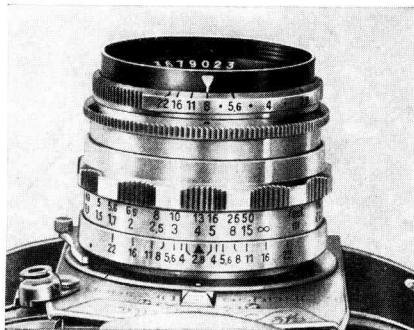

Fig. 14
For critical focusing turn the distance ring, until the subject appears needle sharp on the focusing screen in the finder-hood (11). Then you have the lens-to-subject distance on the meter or feet scale of the distance ring (23) opposite the red mark (Fig. 14/15).
stop needed. If on one half of the scale the aperture chosen comes to lie behind the infinity sign (∞) — proceeding from the middle —, the sharpness will extend to infinity. Example (see Fig. 14): Lens set at 4 m, diaphragm stop 8: range of sharpness from about 2,60 to 8 m using a lens with f/5 cm. For a lens with f/5,8 cm, the depth of field is somewhat smaller: lens set at 4 m, diaphragm stop 8: range of sharpness from about 2,80 m up to about 7,50 m (see Fig. 15). These distances are measured from the film plane of the EXAKTA VX to the subject. Some lenses of the EXAKTA VX are provided with a device to “pre-set the diaphragm”.